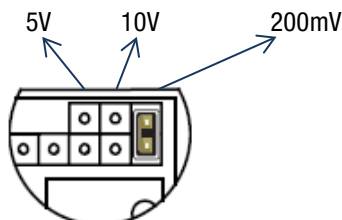

Figure 3: J2 Input Range Selection (5V/10V/200mV)
2. **Input Range Jumper Settings:** Refer to Figure 3 and set jumper J2 for the desired full-scale input range. Figure 3 is shown with the meter configured for 0-200mVdc input range.